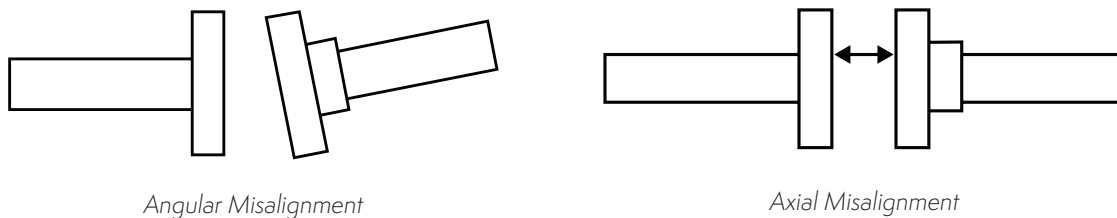

Figure 16 – Checking Angular and Axial Misalignment
6. Check angular and axial misalignment between the drive shaft and both the motor and gear drive couplings. **(Figure 16).**